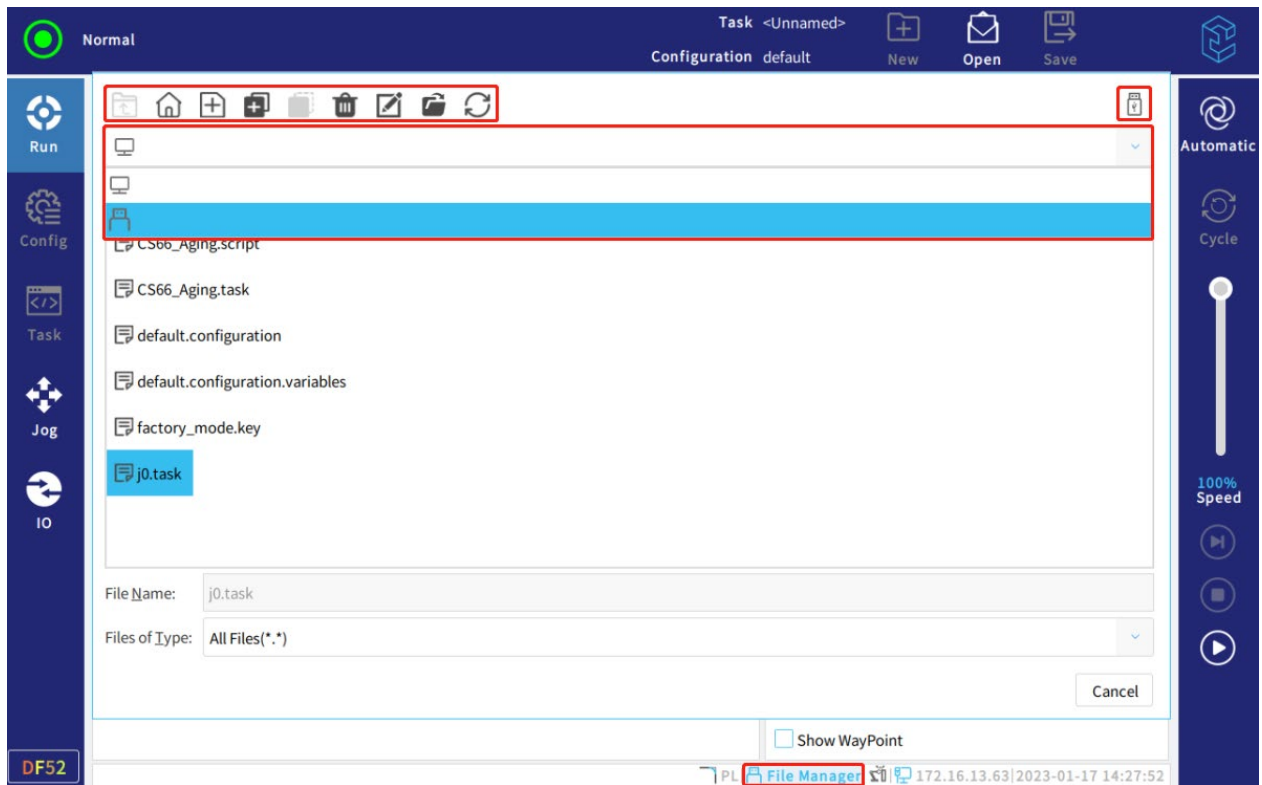

Figure 8-10 File manager
- Click  and paste the copied file. Note that please choose the directory that the user wants to paste the file first. For instance, the user expects to paste the file from the USB disk to the local. Please click the path bar to switch to the local after the copy and paste the copied file in the local directory. If the user wants to paste the file in the specified file folder, please click the specified file folder first and then paste the copied file, as shown in Figure 8-10;